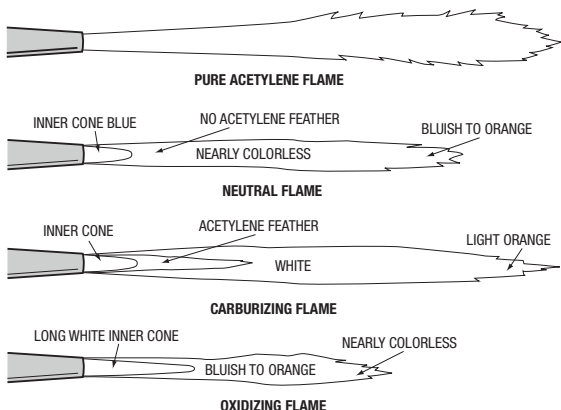

Figure 10
3. Slowly open the oxygen valve until a bright inner cone appears on the flame. The “Neutral Flame” is the point at which the feathery edges of the flame disappear and the sharp inner cone is visible (see Figure 10).